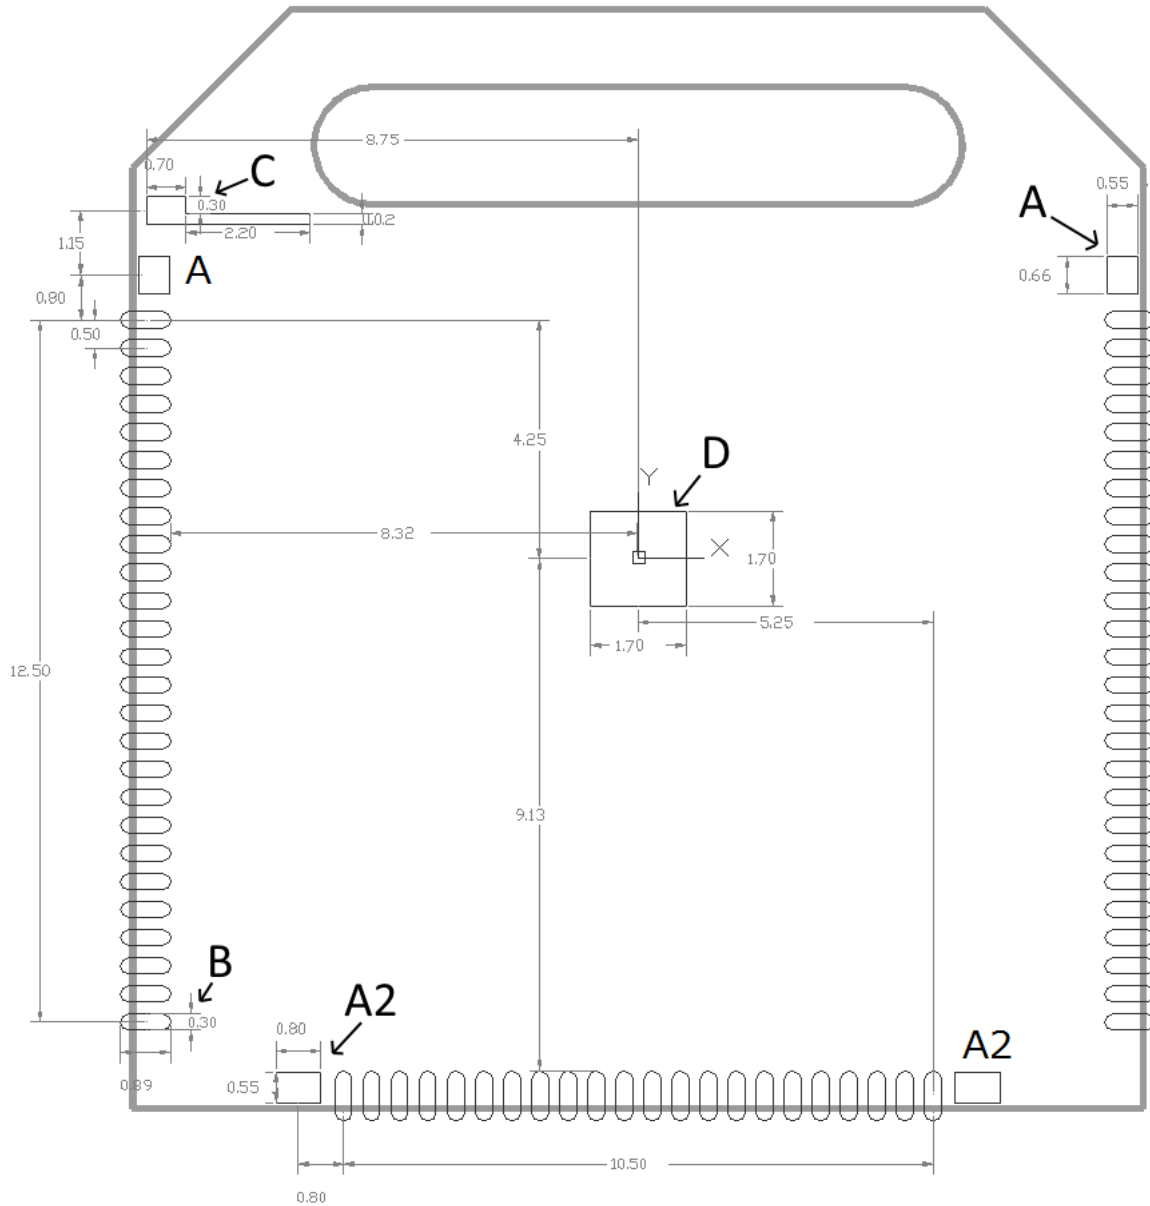
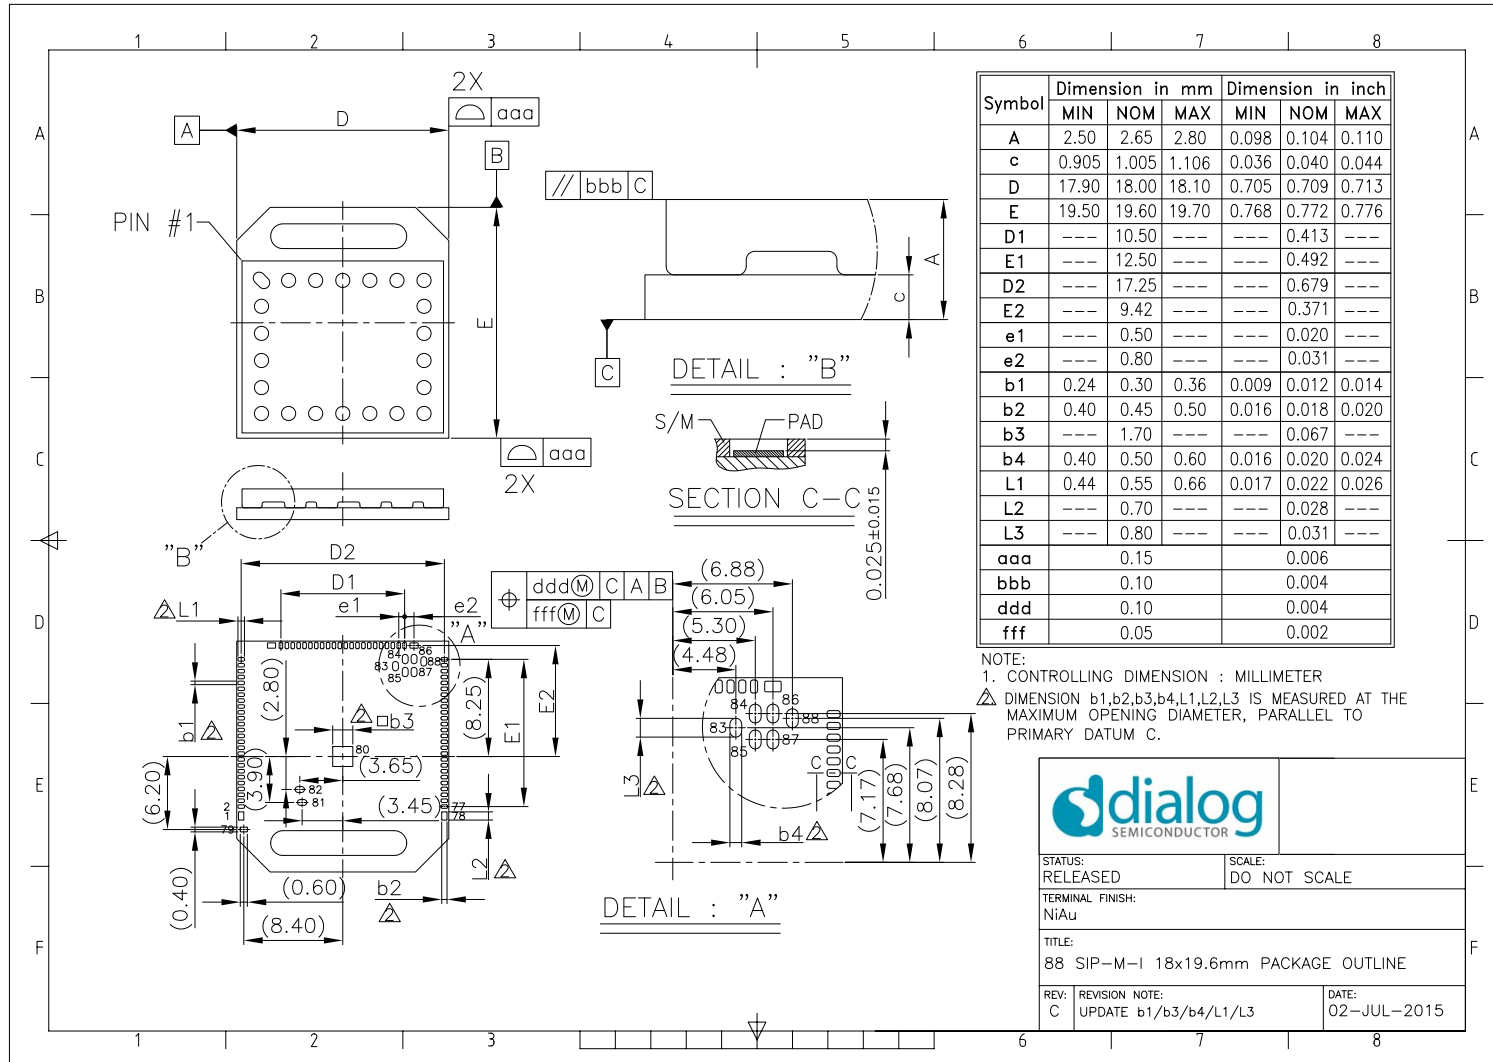

Figure 18: Pad types and dimensions
Figure 21: Package outline drawing
See Figure 18 and Figure 21 for the detailed package outline.
- Package outline drawing updated (Figure 21).